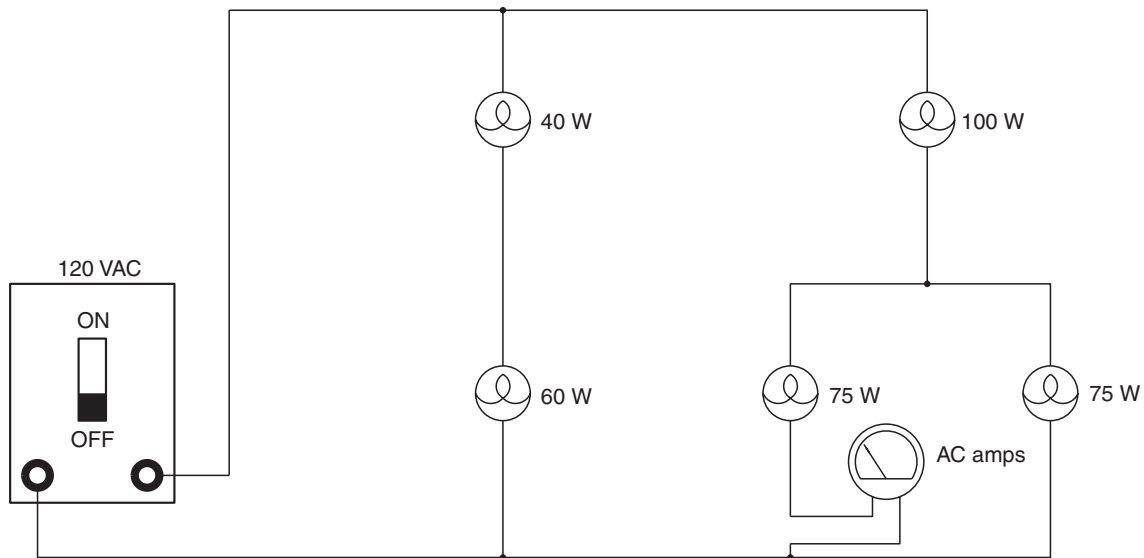

Figure 5-22 Measuring the current flow through one of the 75 watt lamps.
34. Reconnect the AC ammeter to measure the current flow through one of the 75 watt lamps (Figure 5-22). After the connection is complete, turn on the power and measure the current.